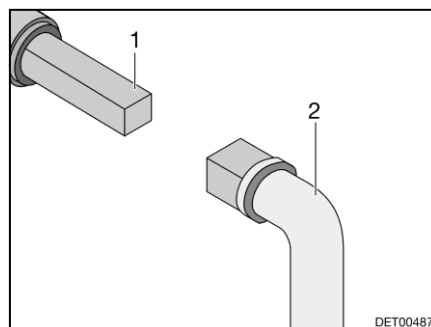

Fig. 159 Operation of the waste water tap
- Place key (Fig. 159,2) onto the square bolt (Fig. 159,1).